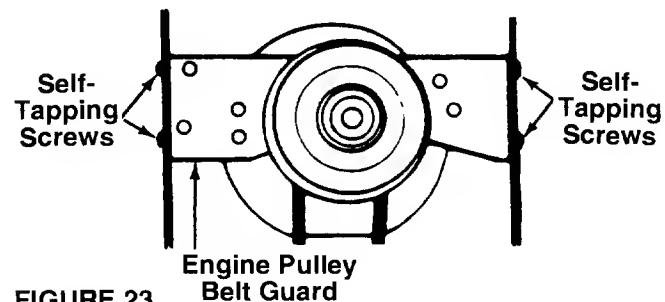

FIGURE 23.
- Remove the two self-tapping screws on each side of the frame which hold the engine pulley belt guard to the frame. See figure 23. Remove the engine pulley belt guard by slipping it forward and down.